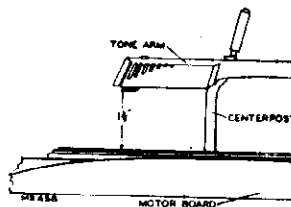

Figure 4
2. Turn the adjustment screw "A" until the sapphire is $\frac{1}{16}$ inches above the turntable. This adjustment will permit the pickup to land and play one record placed on the turntable. At the same time it prevents the tone arm from touching the record resting on the centerpost while the mechanism is going through cycle. (If this height cannot be reached by the adjustment screw, take up on the cotter pin.) (Figures 4 and 5.)